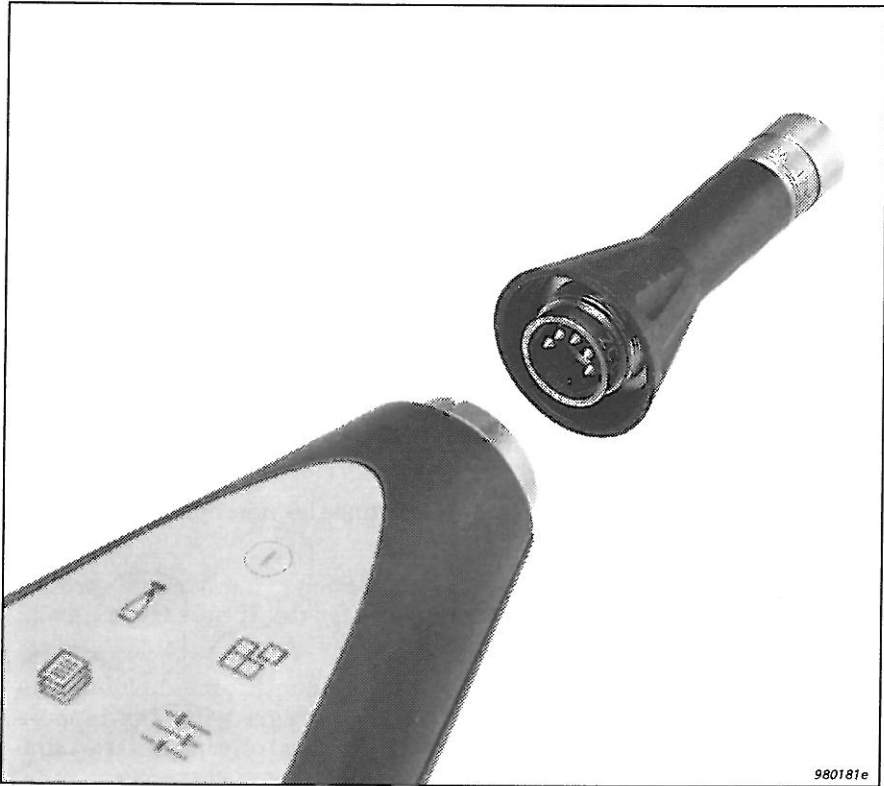

Fig.2.2 Mounting the input stage and microphone onto the sound level meter. 5-pin DIN connectors are used
1. Unscrew the threaded retaining ring (see Fig. 2.2) that secures the input stage. The input stage can now be removed from the input stage socket at the top of the Mediator.